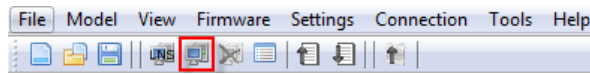

Figure 33: LINX Configurator software, Connect to device
1. Select the IP connection method by clicking on the **Connect to device** button in the tool bar as shown in Figure 33.